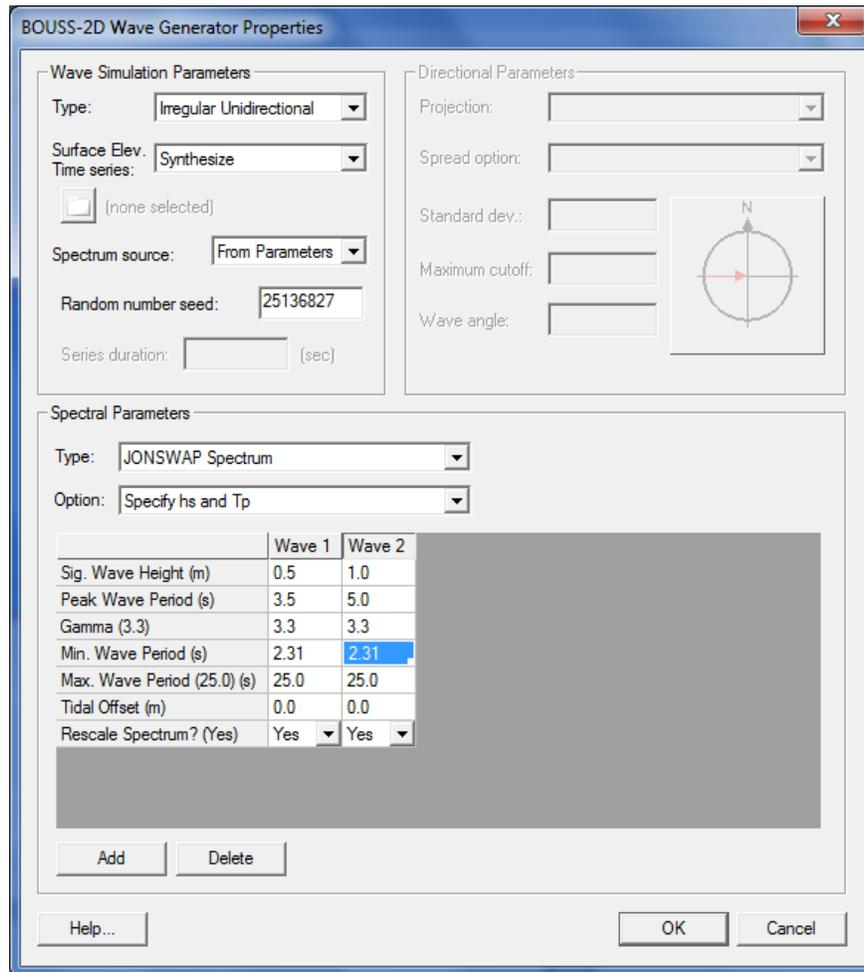

Figure 8 Wave maker properties.
2. Right click on the wave maker arc and select “Attributes...”. The wave generator properties attributes dialog appears (Figure 8). (This is the same dialog used to define wave makers for the 2D applications of the Boussinesq model. The directional options are disabled in this case.)